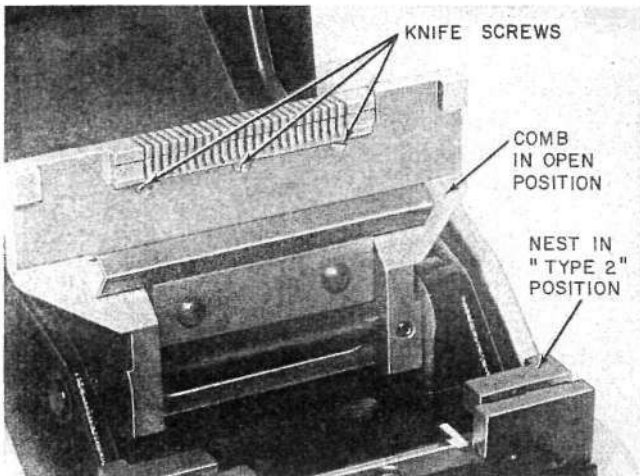

Fig. 12—Connector Nest in Type 2 Position
**4.03 Knife**—The knife is reversible; both edges can be used before it is replaced. To take out the knife, first remove the comb. Then open the comb lock and turn the comb hinge back to get access to the 3 screws which secure the knife (Fig. 12). Remove the screws with a small screwdriver.